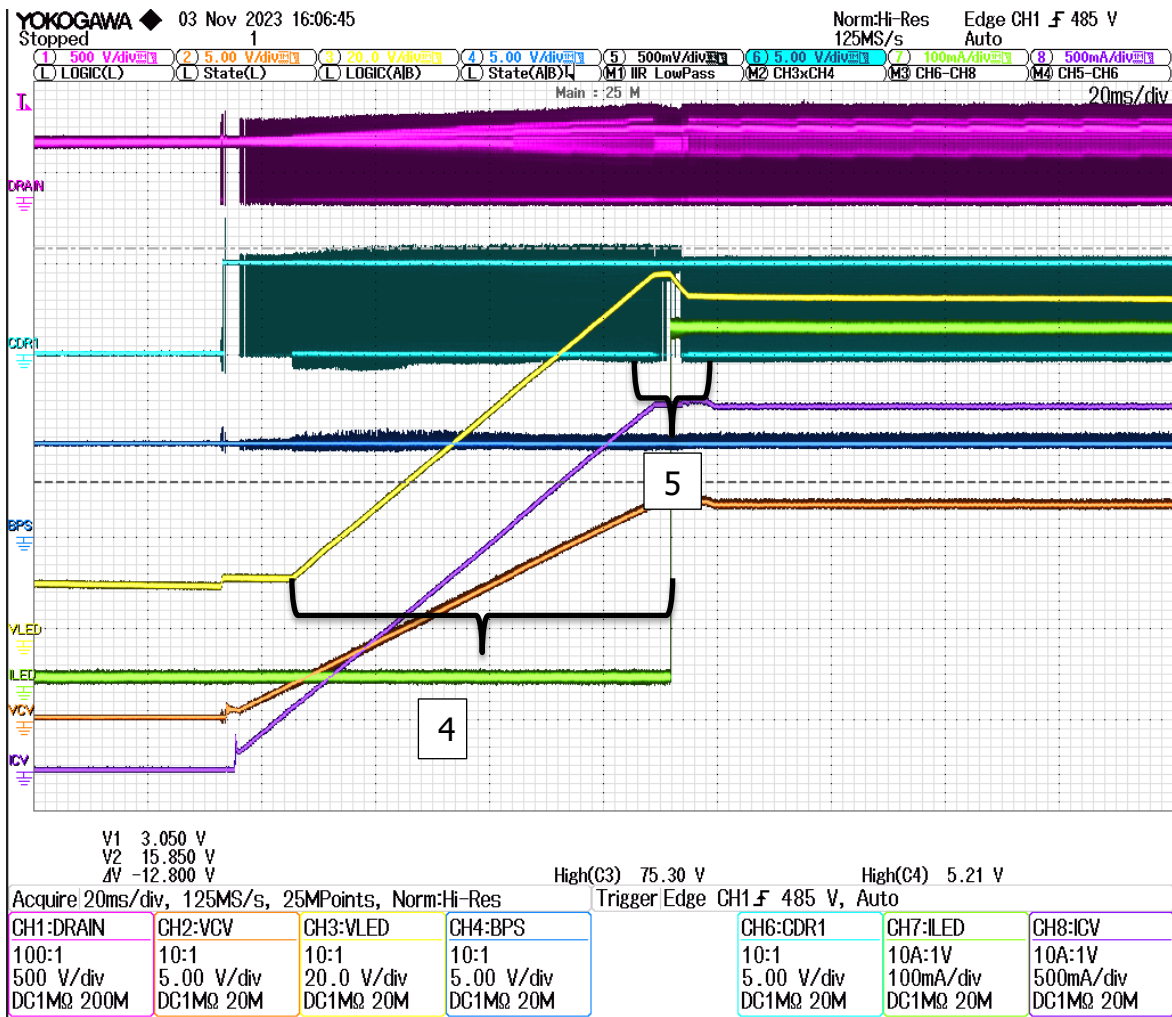

Figure 6 – Complete Start-Up Cycle Over Approximately 180 ms.
4. CV1 and LED output voltages can be seen to rise simultaneously (Figure 6). At some time during interval 4, the CV1 will reach a sufficient level to power the internal BPS regulator via the VCV1 pin (U1 pin 10). The input of the BPS regulator then switches automatically to the VCV1 pin, thus reducing the power dissipation on the BPS regulator.